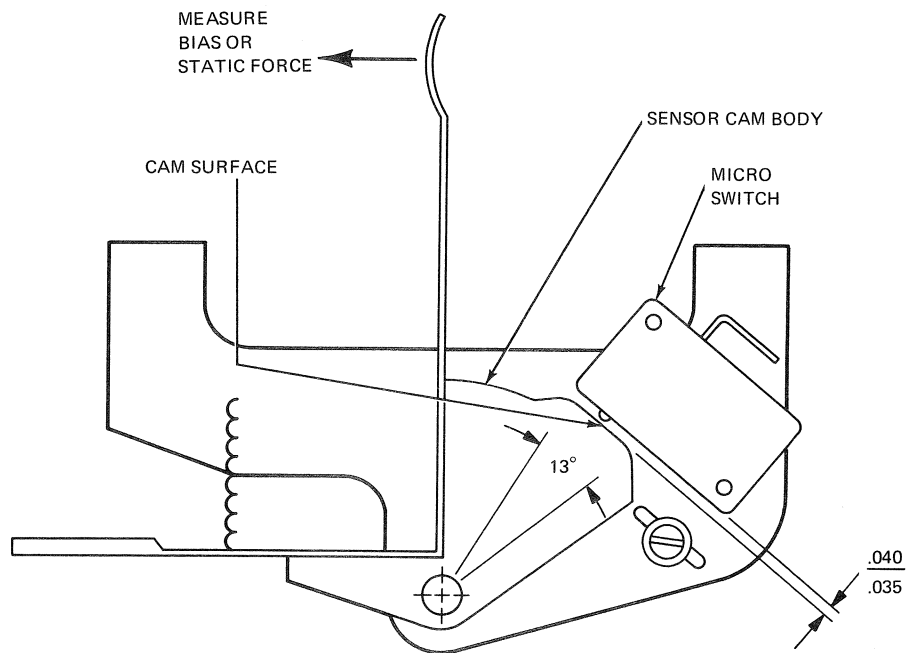

Figure 5-8. Sensor Adjustment
Sensor micro switch should be positioned such that the body of the switch (figure 4, sheet 2, item 56) is spaced $.035/.040$ from the operating cam surface (figure 4, sheet 2, item 53). Adjustment is made by loosening two mounting nuts (figure 4, sheet 2, item 57) and sliding switch body toward or away from cam. (see fig 5-8).